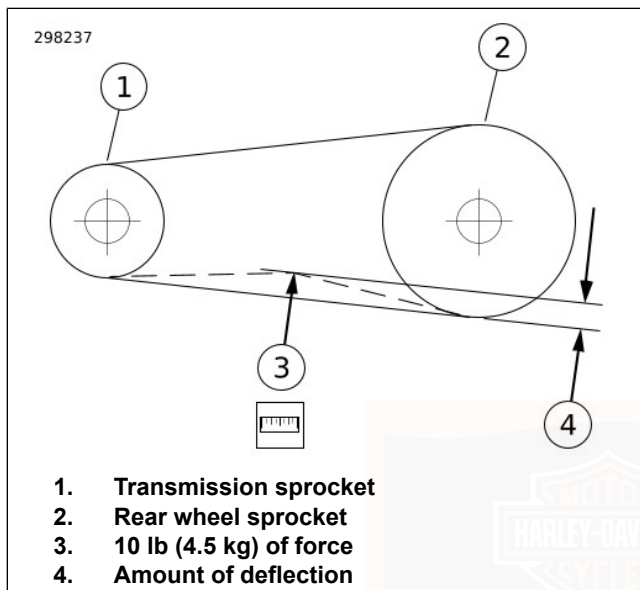

Figure 78. Checking Belt Deflection
- b. **All other models:** See Figure 78. Measure amount of deflection (4) while holding gauge steady.